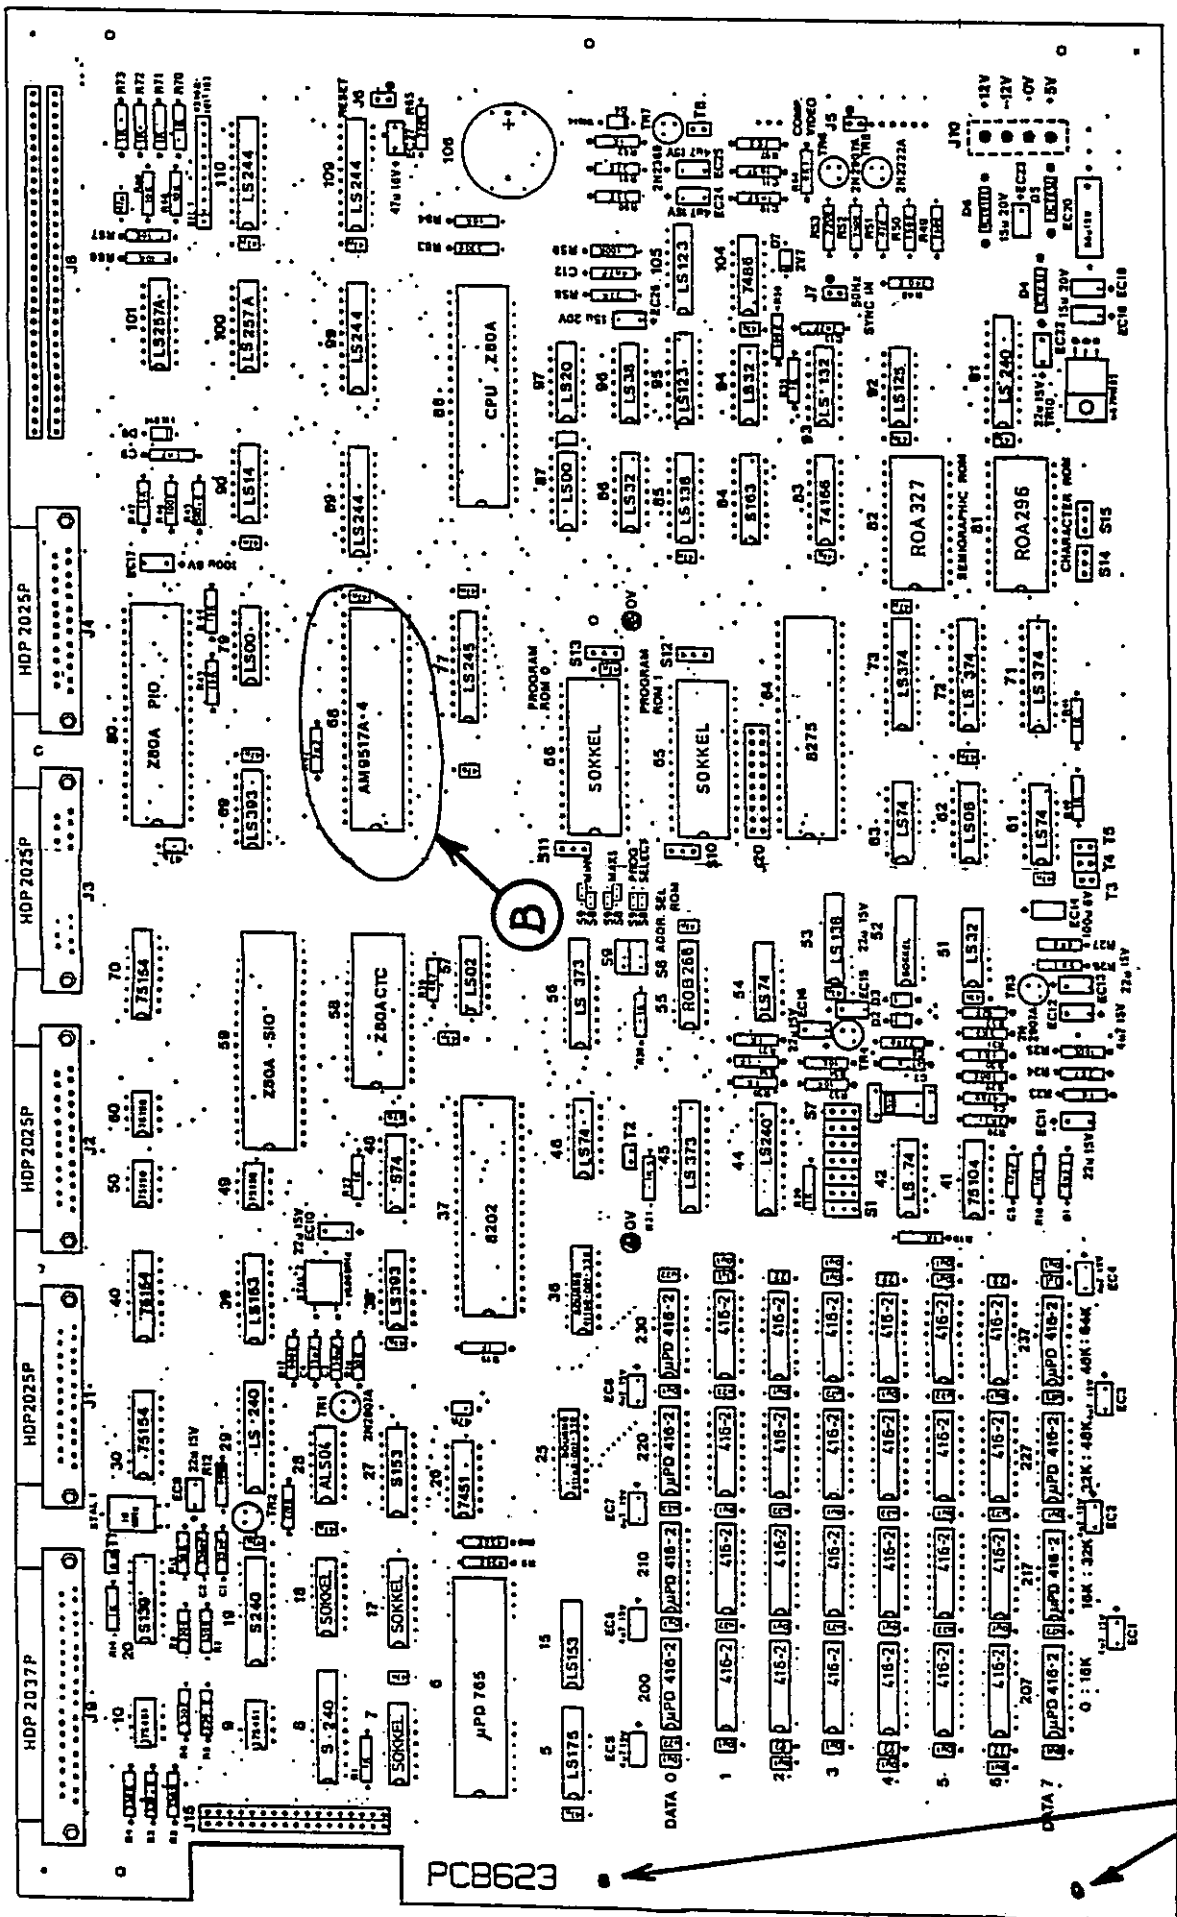

Fig. 1. The Main Circuit Board
3. Remove the 2 screws, pointed out by (A) on fig. 1.
11. Remove IC68 (AM9517A or INTEL 8237) from socket. (B on fig. 1). Do it carefully, so the pins on the IC are not damaged.